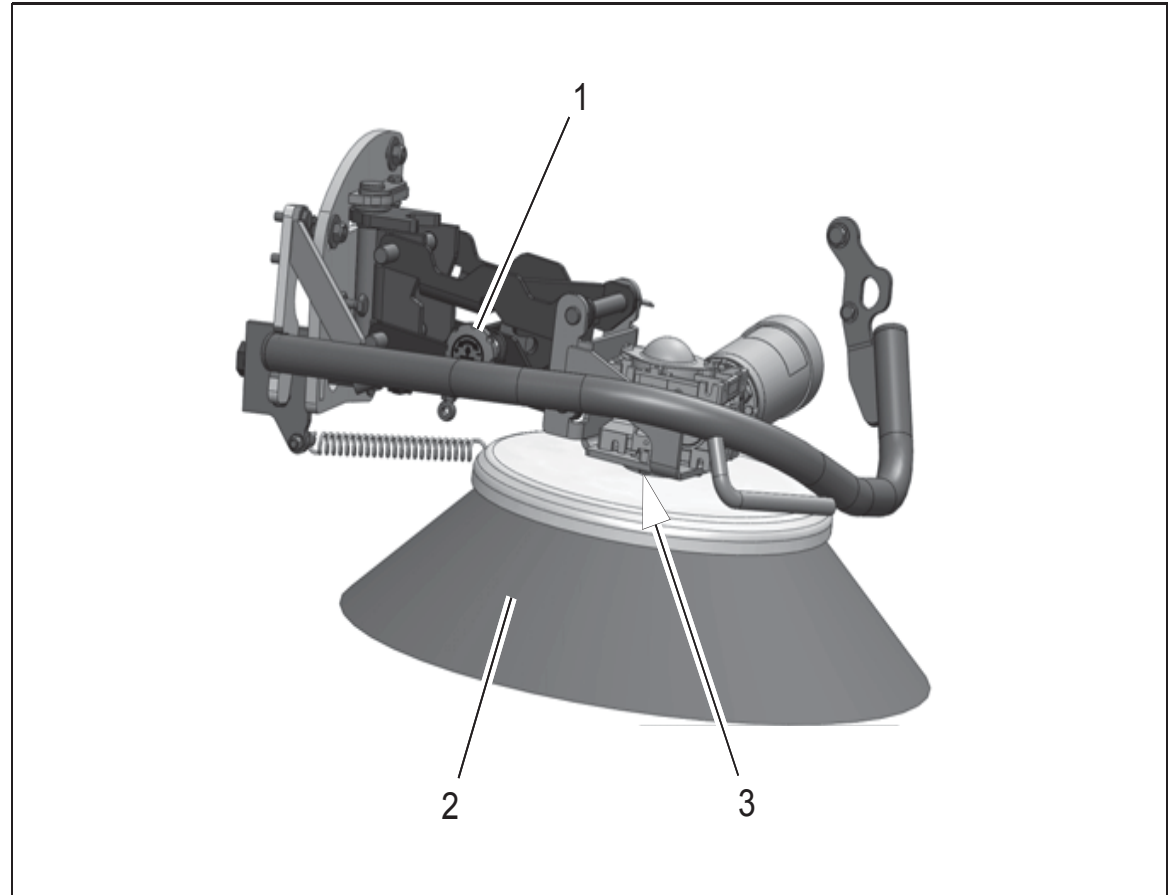

Fig.27
Check the side brushes (Fig. 27/2) every week for signs of wear. In the event of wear or after the side brushes have been changed, proceed as follows to complete the necessary adjustments:
2. Adjust the contact surface of the side brush (Fig. 27/2) using the adjusting bolt (Fig. 27/1). The contact surface of the side brush should be approx. 2/3 of the brush circumference.
2. Loosen the screws and washers on the catch (Fig. 27/3) and remove the side brush (Fig. 27/2).